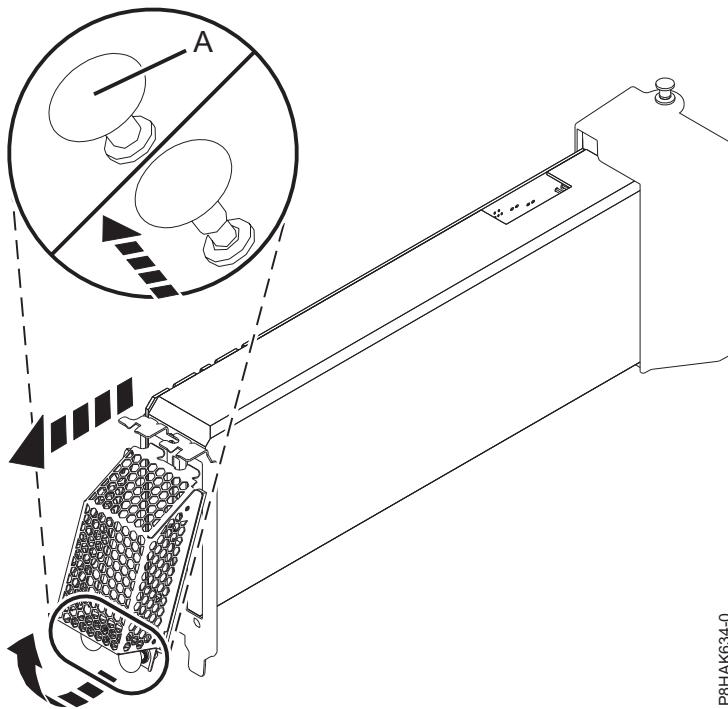

Figure 5. Removing the protective shield from the GPU adapter
**Note:** The PCIe gen3 x16 GPU adapter (feature code EC47 or EC4B) has a protective shield that is attached to the tailstock. The protective shield is attached to the rear bulkhead after you install the adapter. The adapter has an air baffle that is attached at the edge opposite to the tailstock. Do not attempt to remove the air baffle. To remove the protective shield, pull out the locking button as shown in Figure 5. Holding the protective shield, disengage the shield from the tailstock and then pull out the shield.